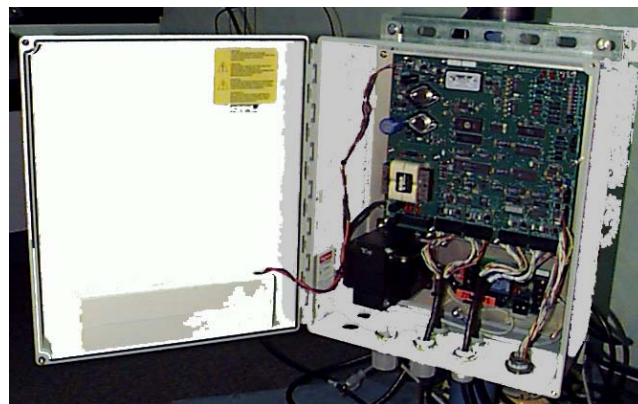

Figure 2-19. Mount the backup battery to the lower edge of the enclosure door using velcro strips.
(See **Figures 2-19** and **2-20**) The Battery Backup Kit can provide up to 3 hours of operation at temperatures above 0° C. A charging circuit on the controller board maintains a full charge on the battery when AC power is present. The battery attaches to the inside of the visibility controller enclosure door using velcro strips.
1. Attach a velcro strip to the bottom of the battery, and a mating strip to the lower lip of the enclosure door, so that when installed the battery will rest on the lower edge of the door (see **Figure 2-19**).